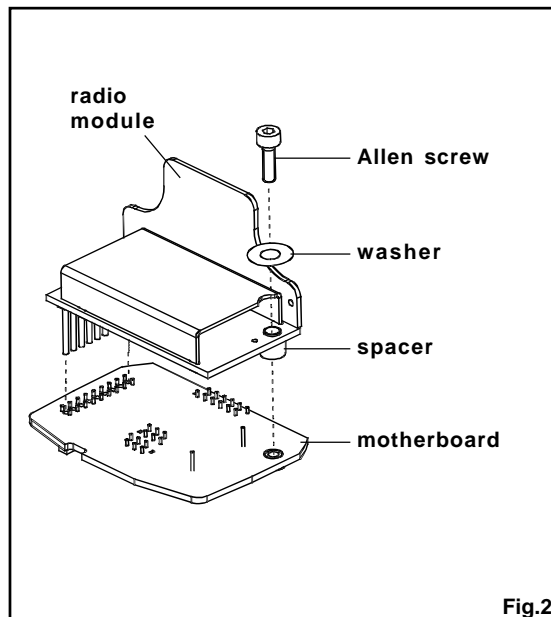

Fig.2
- 2- Install the spacer between the motherboard and the radio module (fig.2).
- 3- Install the washer and the Allen screw (fig.2).